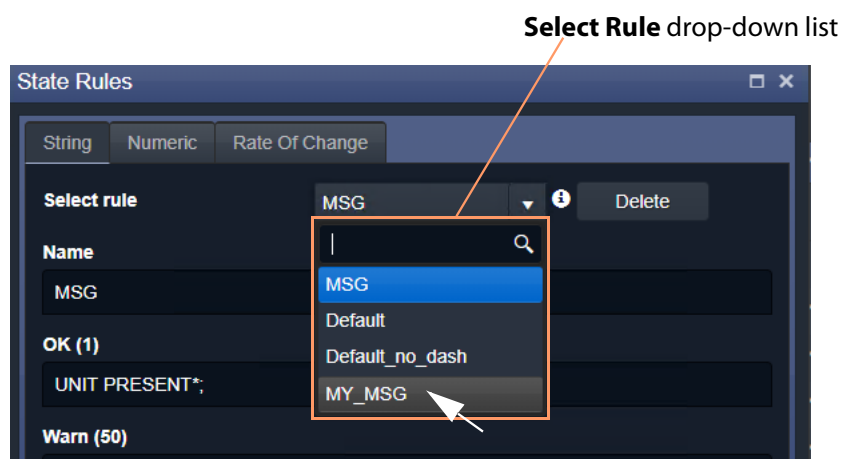

Figure 79: Select Rule Drop-Down List
- 3 Select the state rule to edit from the **Select Rule** drop-down list. See Figure 79.